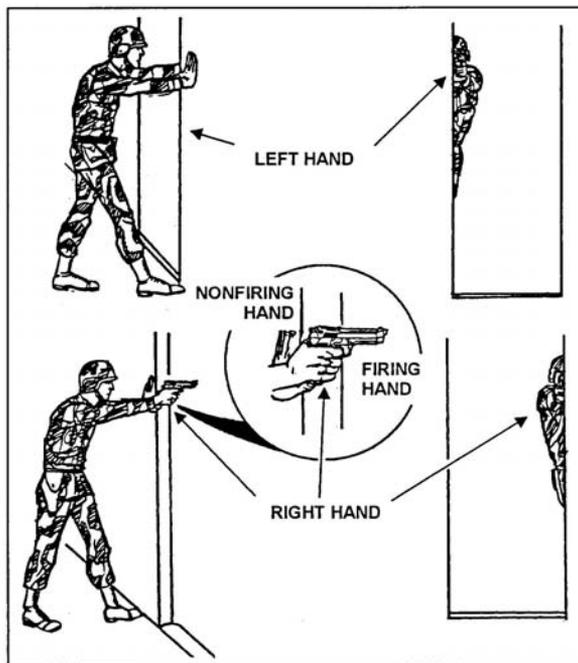

Figure 071-004-0006-7. Standing-with-support position
c. Kneeling (figure 071-004-0006-8). To assume this position—
- (1) Use available cover for support such as a low wall, rocks, or a vehicle that you can fire over.
- (2) Place your firing knee on the ground. Put your left knee down to fire left handed, or your right knee down to fire right handed.
- (3) Bend your other knee. Place the foot on your nonfiring side flat on the ground, pointing toward the target. Extend your arms over available cover, and use it for support.
- (4) Lock the wrist and elbow of your firing arm.
- (5) Wrap your nonfiring hand around your firing fist or wrist to support your firing arm.